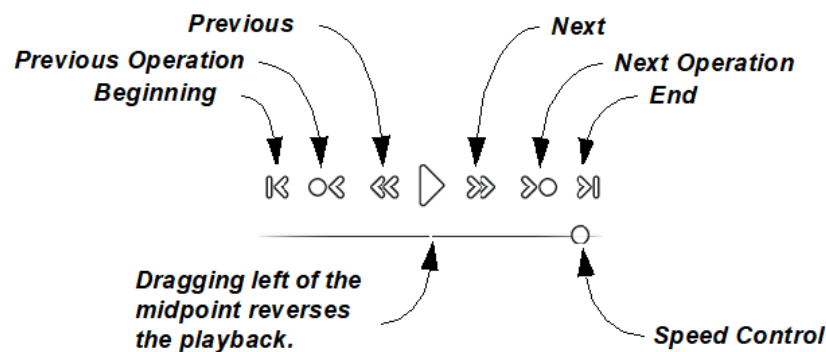

Figure 24
- Click  (Play) in the simulation player to play all selected operations/setups/toolpaths. As they are played, material is removed from the stock/solid model to simulate the machining of the model. The additional playback controls are described in Figure 24.
- To control the speed of the playback, select the circular control under the simulation player (as shown in Figure 24) and drag it to the right to increase the speed or to the left to reduce the speed. The playback reverses once you drag to the left of the midpoint. Speed control can be manipulated while the simulation is in progress.